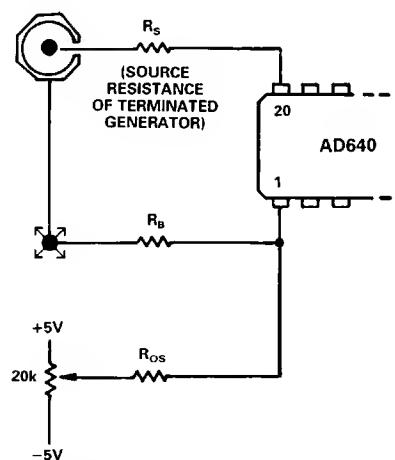

Figure 25. Optional Input Offset Voltage Nulling Circuit;
In most applications there will be no need to use any offset adjustment. However, a general offset trimming circuit is shown in Figure 25.  $R_S$  is the source resistance of the signal. Note: 50  $\Omega$  rf sources may include a blocking capacitor and have no dc path to ground, or may be transformer coupled and have a near zero resistance to ground. Determine whether the source resistance is zero, 25  $\Omega$  or 50  $\Omega$  (with the generator terminated in 50  $\Omega$ ) to find the correct value of bias compensating resistor,  $R_B$ , which should optimally be equal to  $R_S$ , unless  $R_S = 0$ , in which case use  $R_B = 5 \Omega$ . The value of  $R_{OS}$  should be set to 20,000  $R_B$  to provide a  $\pm 250 \mu\text{V}$  trim range. To null the offset, set the source voltage to zero and use a DVM to observe the logarithmic output voltage. Recall that the LOG OUT current of the AD640 exhibits an *absolute value response* to the input voltage, so the offset potentiometer is adjusted to the point where the logarithmic output "turns around" (reaches a local maximum or minimum).
R4 is identical to R2, and in shunt with R3 ( $270\ \Omega$  thin film) forms a  $27\ \Omega$  resistor with the same TC as the output resistance of the attenuator. By connecting Pin 1 to ATN LOW (Pin 2) this resistance minimizes the offset caused by bias currents. The offset nulling scheme shown in Figure 25 may still be used, with the external resistor  $R_B$  omitted and  $R_{OS} = 500\text{ k}\Omega$ . Offset stability is improved because the compensating voltage introduced at Pin 20 is now PTAT. Drifts of under  $1\ \mu\text{V}/\text{ }^\circ\text{C}$  (referred to Pins 1 and 20) can be maintained using the attenuator.
Cascaded AD640s can be used in dc applications, but input offset voltage will limit the dynamic range. The dc intercept is 6  $\mu$ V. *The offset should not be confused with the intercept*, which is found by extrapolating the transfer function from its central "log linear" region. This can be understood by referring to Equation (1) and noting that an input offset is simply additive to the value of  $V_{IN}$  in the numerator of the logarithmic argument; it does not affect the denominator (or intercept)  $V_X$ . In dc coupled applications of wide dynamic range, special precautions must be taken to null the input offset and minimize drift due to input bias offset. It is recommended that the input attenuator be used, providing a practical input range of  $-74$  dBV ( $\pm 200$   $\mu$ V dc) to  $+6$  dBV ( $\pm 2$  V dc) when nulled using the adjustment circuit shown in Figure 25.